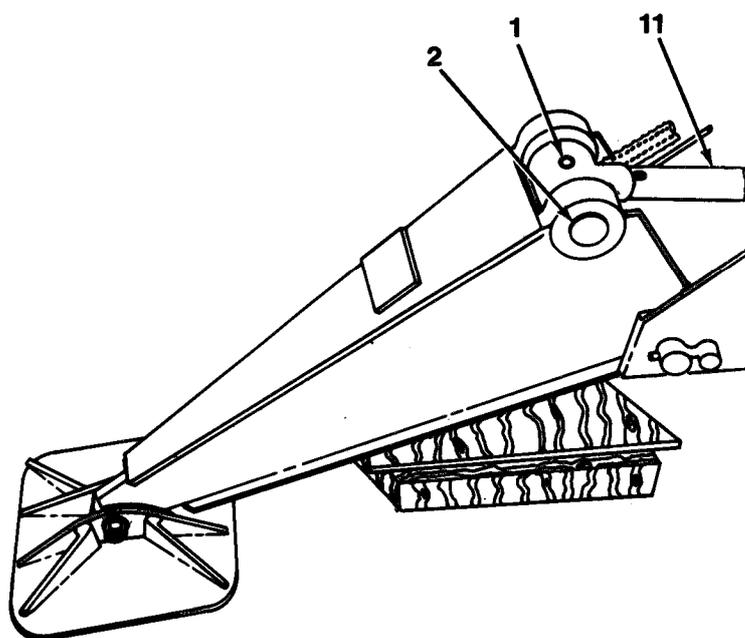

Figure 13-1
- Install pin (2, Figure 13-1) and drive pin into beam.
- Install pin (1) into pin (2).
- Remove wood blocks supporting outrigger beam and cylinder assembly (11).